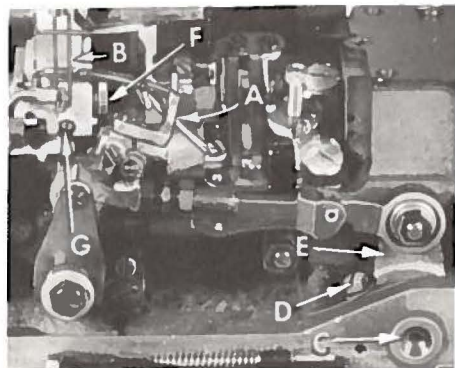
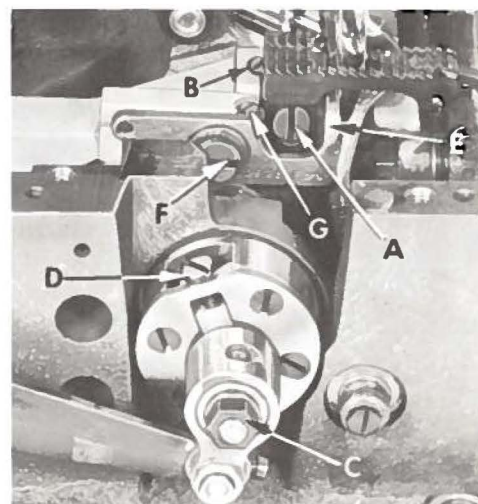

Fig. 5
Fig. 8
Insert the front looper (A, Fig. 5) in the looper rocker and turn handwheel in operating direction until the point of the looper, moving to the left is even with the left side of right needle (B). Note the height of the eye of the needle with respect to the looper point, then turn handwheel in the reverse direction until the looper point again moves to the left and is even with the left side of the right needle. If the motions synchronize, the height of the eye of the needle with respect to the looper point will be the same. A variation of .005 inch is allowable. If the distance from the eye of the needle to the point of the looper is greatest when the pulley is turned in the operating direction, move the looper drive shaft synchronizing stud (C, Fig. 5) to the rear. Moving it in the opposite direction acts the reverse.
Moving of the looper drive lever shaft synchronizing stud is accomplished as follows: Loosen the clamp screw (D, Fig. 5) of the looper drive lever (E). To move stud to rear (away from operator), a light tap with a small hammer, directly on the stud, is all that is required. To move stud forward (toward operator), remove the cloth plate, throat plate support, oil reservoir top cover and oil reservoir back cover, then, a light tap on the looper drive lever rocker shaft, toward the operator, is all that is required. Then, using the looper drive lever to take up the end play between the looper drive lever rocker shaft and its synchronizing stud, tighten the looper drive lever on the shaft, using screw (D, Fig. 5).
The tips of the feed dog teeth should extend the depth of a tooth or approximately  $3/64$  inch above the throat plate and parallel with the throat plate at high point of travel. The height can be adjusted by loosening screw (A, Fig. 8) which holds the feed dog in position, turn height adjusting screw (B) as required and retighten screw (A). If feed dog teeth are not parallel with the throat plate, loosen nut (F, Fig. 5) and turn screw (G) clockwise to lower the front teeth, or counterclockwise to raise the front teeth. Retighten nut when feed dog is set properly.
Set the stitch to the required length. This is accomplished by loosening locknut (C, Fig. 8) (it has a left hand thread) and turning the stitch adjusting screw (D). Turning screw (D) clockwise shortens the stitch and turning it in a counterclockwise direction lengthens the stitch. The head of the mainshaft is marked with an "S" and an "L", moving the stitch regulating stud toward the "S" shortens the stitch and toward the "L" lengthens the stitch. Retighten locknut (C) after setting the stitch to the required length.
Set the rear needle guard (E, Fig. 8) horizontally so that it does not quite contact the rear of the needles when at its most forward point of travel. A clearance of  $.005$  inch is permissible. It should be set as low as possible, yet have its vertical face approach within about  $3/64$  inch of the needles, until the points of the loopers moving to the left, are even with the needles. To move the guard forward or rearward, merely loosen screw (F), move needle guard as required, and retighten screw. To raise or lower needle guard, loosen screw (F) and turn screw (G) clockwise to lower needle guard or counterclockwise to raise it. Retighten screw (F) after guard is properly set.